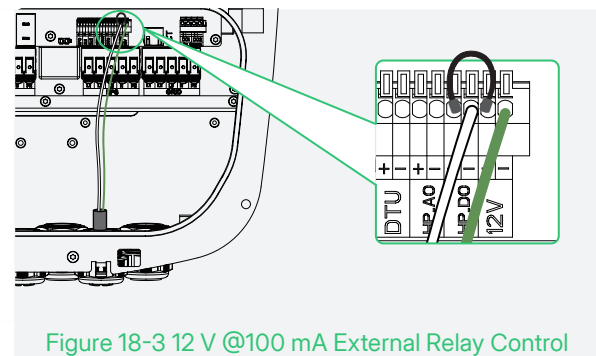

Figure 18-3 12 V @100 mA External Relay Control
- Figure 18-3 is for the generator controlled by an external relay. Select an appropriate external relay based on the type of SG Ready heat pump.